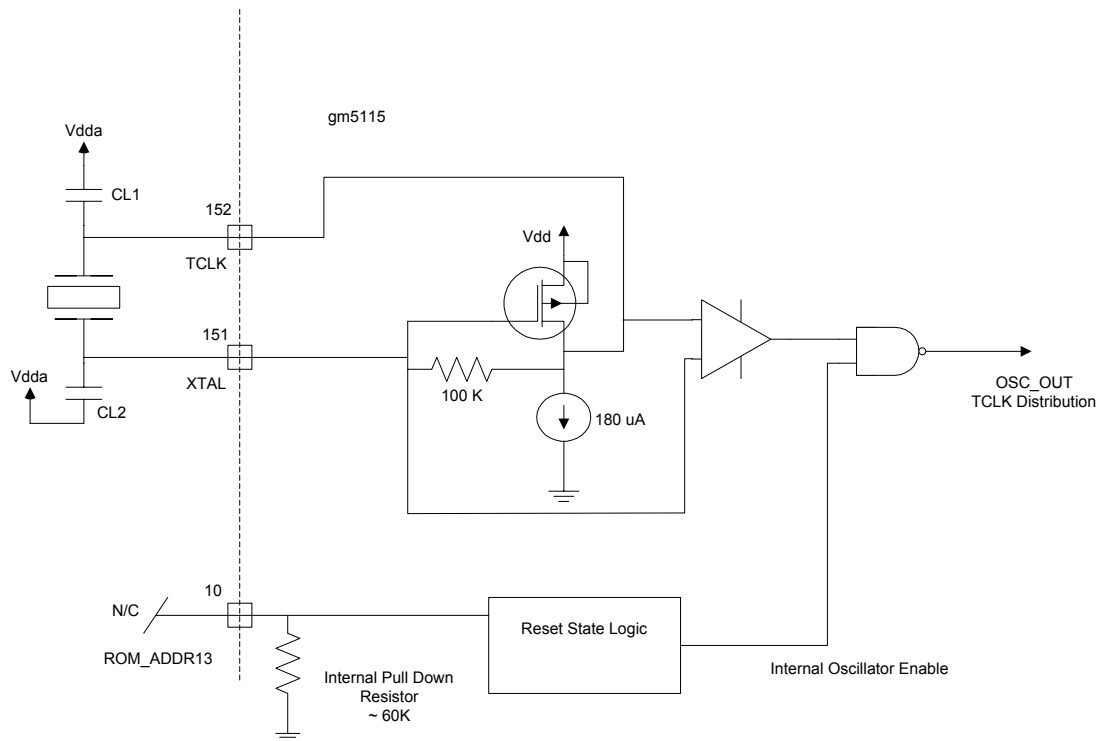
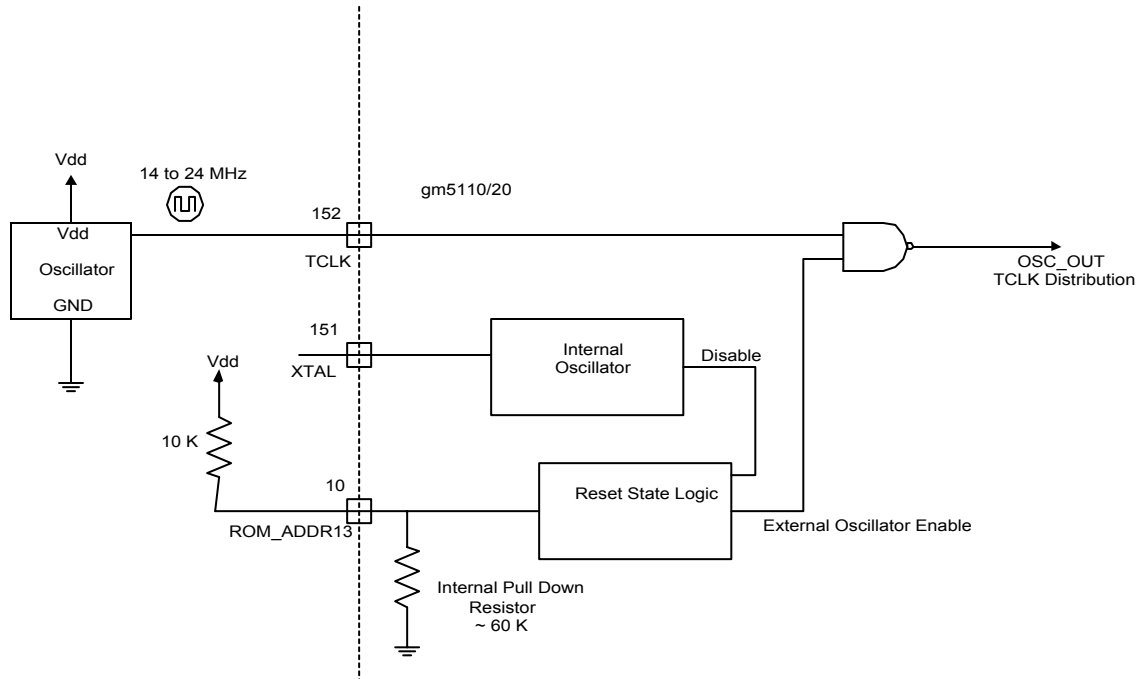

Figure 4. Using the Internal Oscillator with External Crystal
Figure 7. Using an External Single-ended Clock Oscillator
1. Crystal Input Clock (TCLK and XTAL). This is the input pair to an internal crystal oscillator and corresponding logic. A 4.3 MHz TV crystal is recommended. Other crystal frequencies may be used, but require custom programming. This is illustrated in Figure 4 below. Alternatively, a single-ended TTL/CMOS clock oscillator can be driven into the TCLK pin (leave XTAL as N/C in this case). This is illustrated in Figure 7 below. This option is selected by connecting a pull-up to ROM_ADDR13 (refer to Table 18). See also Table 14.
Another option for providing the reference clock is to use a single-ended external clock oscillator. When the gm5110/20 is in reset, the state of the ROM_ADDR13 (pin 10) is sampled. If ROM_ADDR13 is pulled high by connecting to VDD through a pull-up resistor (15KΩ recommended, 15K maximum) then external oscillator mode is enabled. In this mode the internal oscillator circuit is disabled and the external oscillator signal that is connected to the TCLK pin (pin number 152) is routed to an internal clock buffer. This is illustrated in Figure 7.